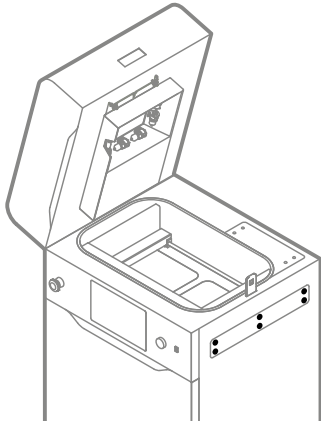

Fig. 12.69 Remove six screws from the access panel.
6. Using a 2.5 allen key, remove the six screws securing the access panel on the right side of the printer (fig. 12.69).